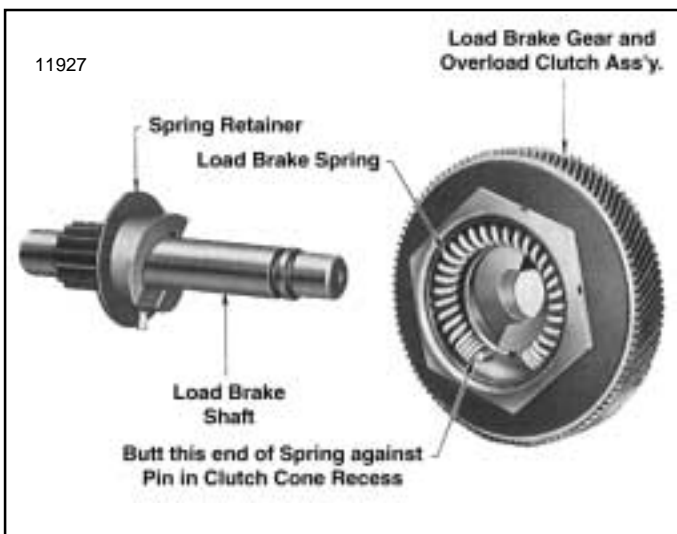

Figure 7-24. Load Brake Gear and Overload Clutch Assembly Removed from Load Brake Shaft Showing Brake Spring Installed in Clutch Cone
(3) Remove load brake gear and overload clutch assembly from output pinion shaft. Pull the spring from its recess in clutch cone (fig. 7-24) but do not further disassemble gear and clutch assembly. See "NOTE" below.
NOTE: Disassembly of the load brake gear and overload clutch assembly (fig. 7-24) is not recommended. Clutch pressure is preset by the factory at assembly to provide the correct torque to allow the clutch to refuse loads within a specified range (110% of rated load to 180% rated load). It is suggested whenever there is a need to repair or readjust the gear and clutch assembly that it be sent to an authorized **Yale** Hoist Repair Station where adequate tools, fixtures and appropriate test equipment is available.
(1) Before assembly, all parts should be cleaned and inspected to determine their serviceability. Replace parts that are excessively worn or damaged.
(2) Reassemble load brake parts following a reverse procedure of the disassembly steps listed above, observing the assembly steps (3) thru (6) below.
(3) Before installing spring in its recess in center of clutch cone (fig. 7-24) apply a good grade of ball bearing grease to inside of recess. Spring must be positioned exactly as illustrated, abutted against pin.